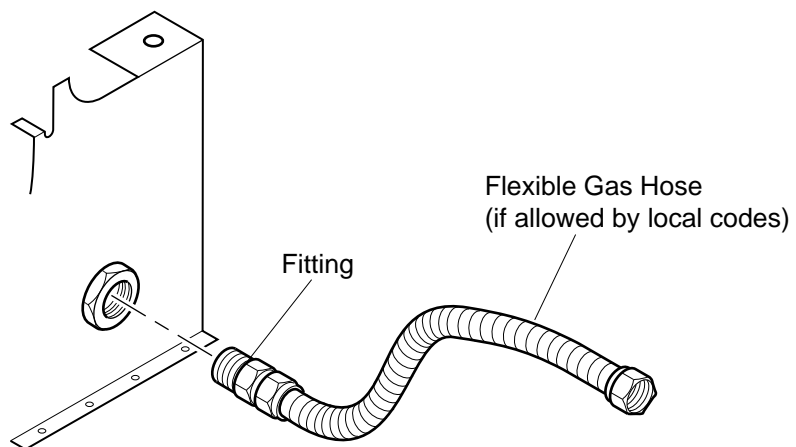

Figure 10 - Attaching Flexible Gas Hose to Heater
1. Apply pipe joint sealant lightly to male threads of the fitting to be threaded into gas regulator. Connect approved flexible gas hose to gas regulator of heater (see Figure 10, page 14).